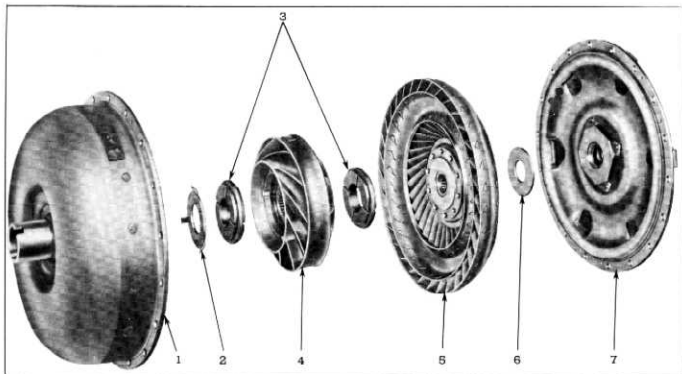

Fig. 174—Layout of Converter Parts
5. Figure 174 shows layout of converter parts.